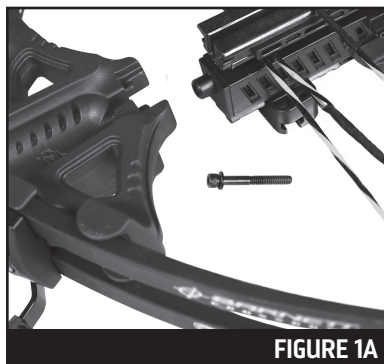

FIGURE 1A
2. Place cables under the front edge of the arrow/flight track into the cable slot; this should cause the string to rest on top of the arrow/flight track as shown in Figure 1A. The "string" connects from one cam to the opposite cam. The "cables" are connected to both the limbs and cams. The string should be in contact with the arrow/flight track.